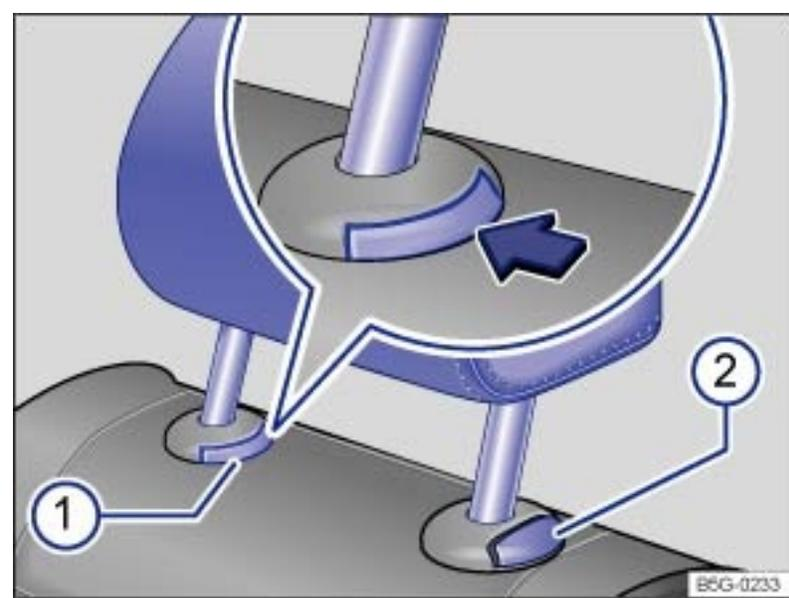

Fig. 45 Removing the rear head restraint (version A).
- ▶ Push button → Fig. 45 ① in the direction of the arrow and hold it in this position.
- ▶ At the same time press button ② while a second person pulls out the head restraint completely.
- ▶ Push the head restraint down while pressing button → Fig. 45 ②